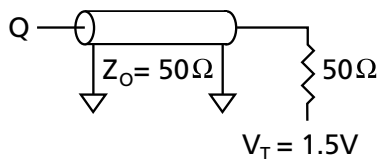
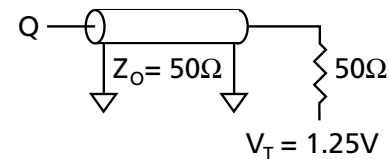

Figure 1
Figure 3
3. Test conditions as specified with output loading as shown in Figure 1 for 3.3V I/O ($V_{DDQ} = +3.3\text{V} \pm 0.165\text{V}$) and Figure 3 for 2.5V I/O ($V_{DDQ} = +2.5\text{V} \pm 0.125\text{V}$).
Output load	See Figures 1 and 2
Output load	See Figures 3 and 4